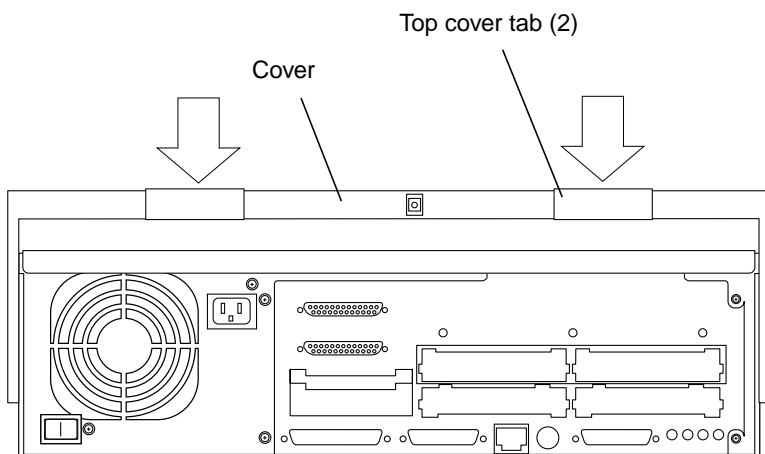

FIGURE 2-11 Replacing the Cover
3. Lower the cover onto the system unit so that the rear of the cover is supported by the chassis back panel (FIGURE 2-11).